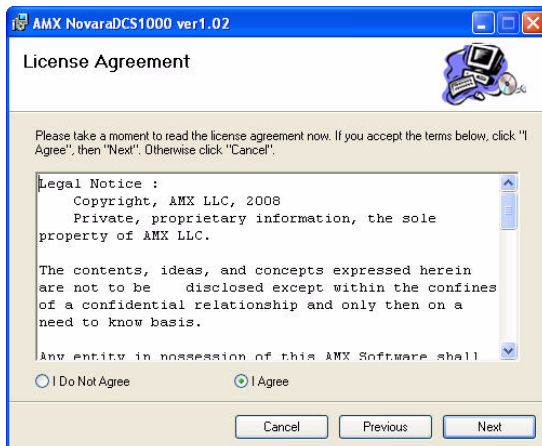

FIG. 40 AMX DCS1000 License Agreement
3. Read the *License Agreement* (FIG. 40), and click **I Agree** to accept the terms and proceed with the installation. (otherwise, click **Cancel**).